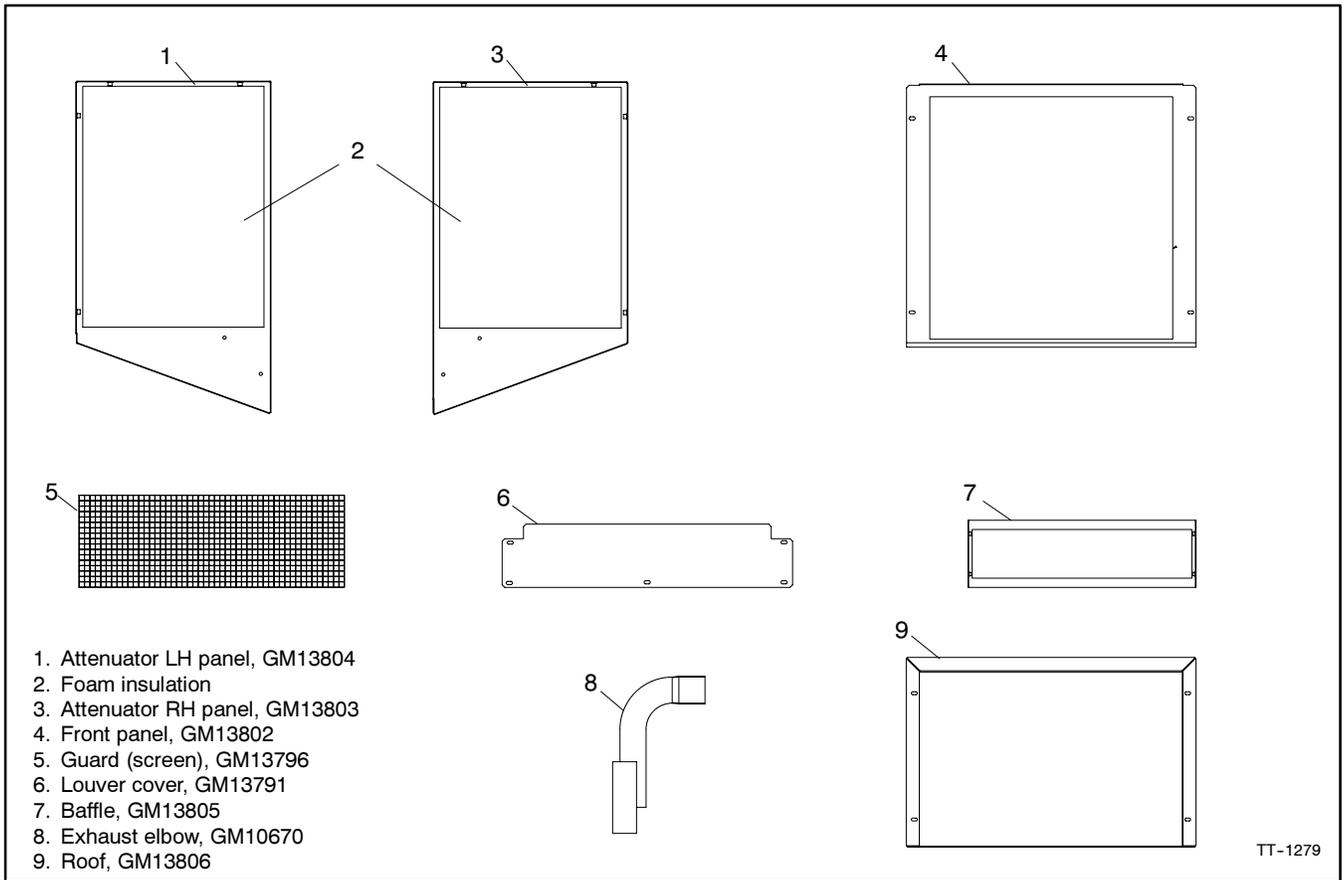

Figure 3 Sound Attenuator Parts (Hardware and screen brackets are not shown.)
- 2.1 Check for mounting holes in the air intake and exhaust ends of the generator housing. Proceed to step 3 if the generator set housing has mounting holes for the attenuators. Otherwise, drill holes in the air intake and exhaust ends of the generator set housing as described below. Refer to Figure 3 for part identification.
Note: Refer to Figure 3 for part identification.